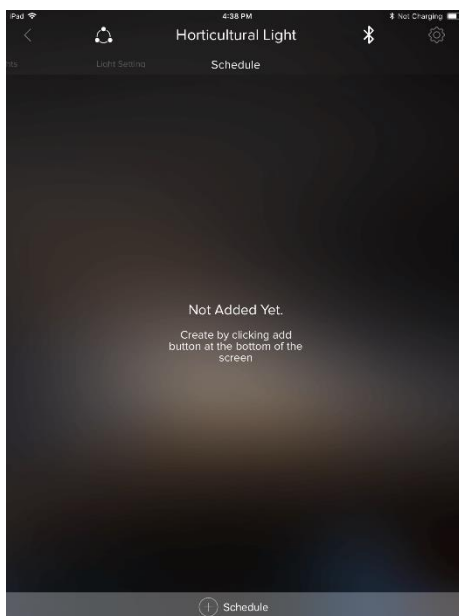

Figure 5-11 Schedule Screen
5.4.1 Click on the Group, or individual SLC inside the Group, and scroll to the right until the Schedule tab appears, as shown in first image of Figure 5-11. Click on the “Schedule” button and then select on the appropriate type of schedule required to be set by the User. Follow the instructions shown on the screens until finished to create the schedule